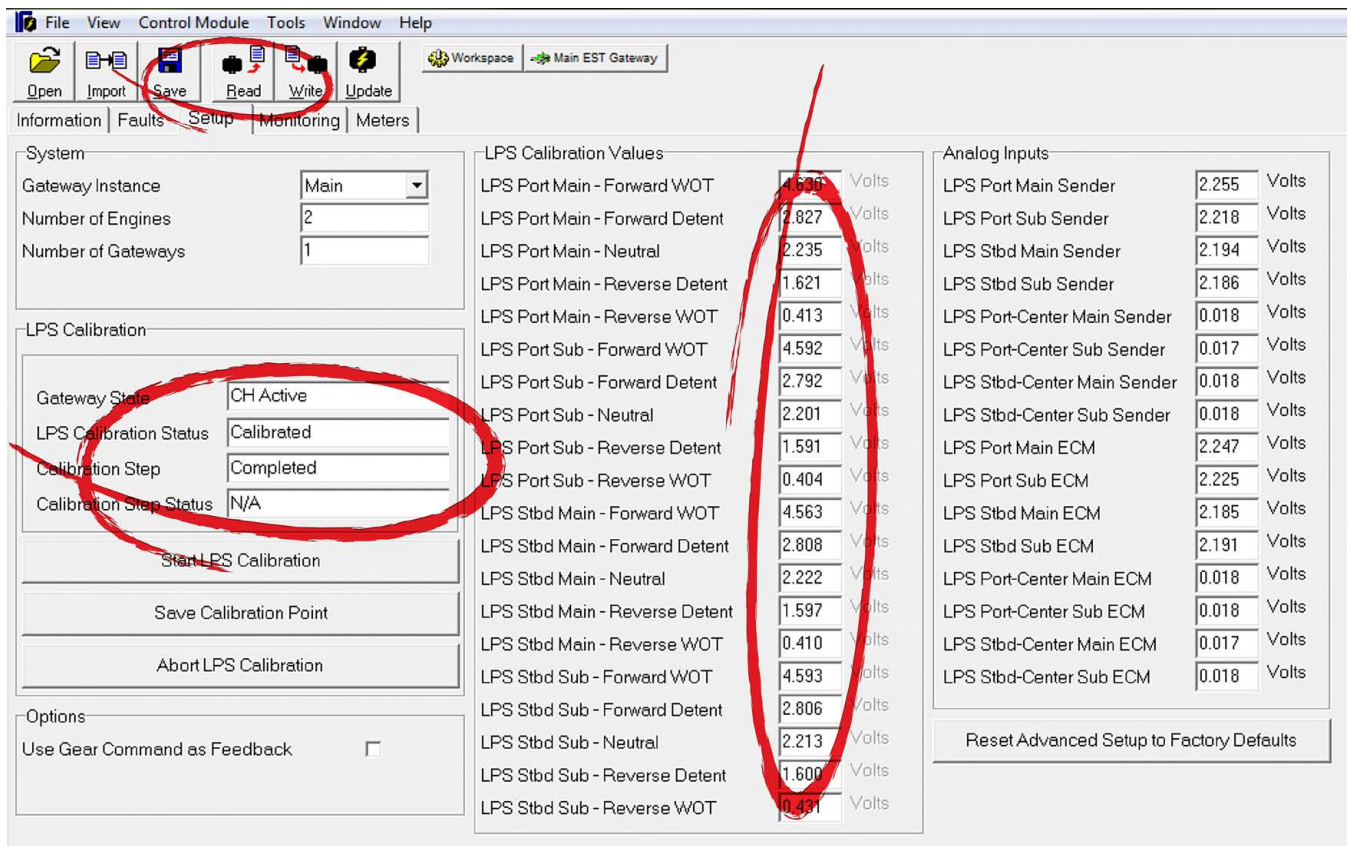

Figure B-24. Sample of final calibration values.
6. Once you've calibrated the last lever position, click **Read** and the LPS Calibration Values table will populate with the calibrated values (see figure B-24). The LPS Calibration Status field will now read 'Calibrated' to indicate that calibration is complete.